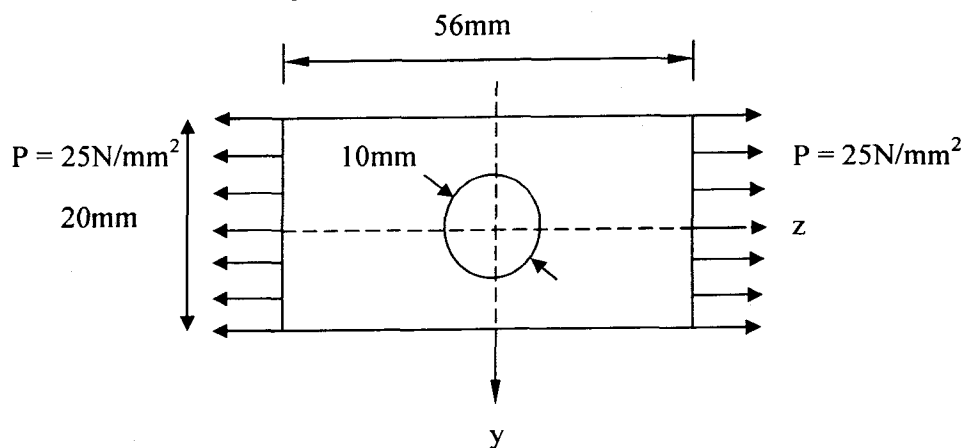

Figure 8
- (b) A plate with a hole is subjected to tension, $p = 25.0\text{N/mm}^2$ as shown in Figure 8. It is a 2D plane stress problem. The plate is modeled with linear four-noded rectangular elements and three-noded triangular elements. Given Elastic Modulus $E = 7.0 \times 10^4 \text{N/mm}^2$, thickness, $t = 1\text{mm}$ and Poisson ratio, $\nu = 0.25$.